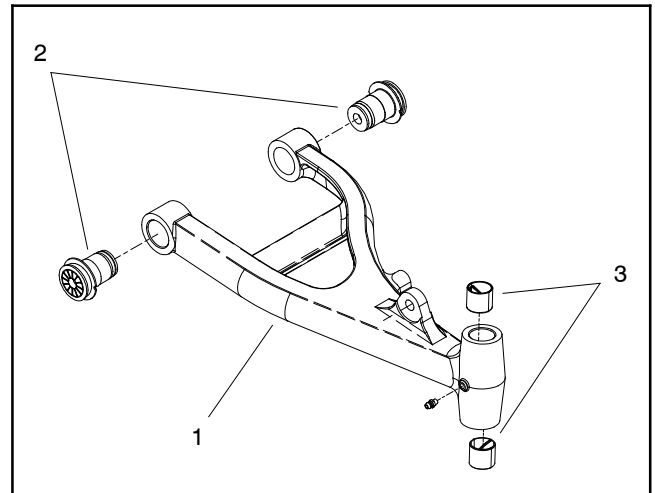

Figure 16
4. Remove cap screw (item 7), flat washer (item 5) and lock nut (item 6) that secure lower end of shock absorber to A-arm.
6. Remove both cap screws (item 19) and lock nuts (item 6) that secure A-arm to frame. Pull A-arm from frame.
7. If necessary, remove flange bushings and straight bushings from A-arm bores (Fig. 16).
1. If bushings were removed from A-arm, press new bushings fully into bore of A-arm (Fig. 16).
2. Position A-arm to the frame. Secure A-arm to the frame with cap screws (item 19) and lock nuts (item 6). Insert front screw from front of machine and rear screw from rear of machine. Do not fully tighten nuts.
3. Position lower end of shock absorber to A-arm and insert cap screw (item 7) with flat washer (item 5) from rear of shock. Secure with lock nut (item 6).
4. Fully tighten lock nuts (item 6) to secure A-arm to machine frame.